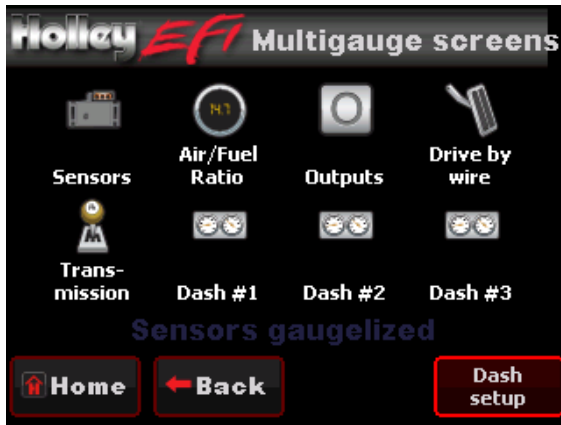

Figure 58
- Step 1: Choose 'Dash Setup' from the Multi-Gauge screen (Figure 58).